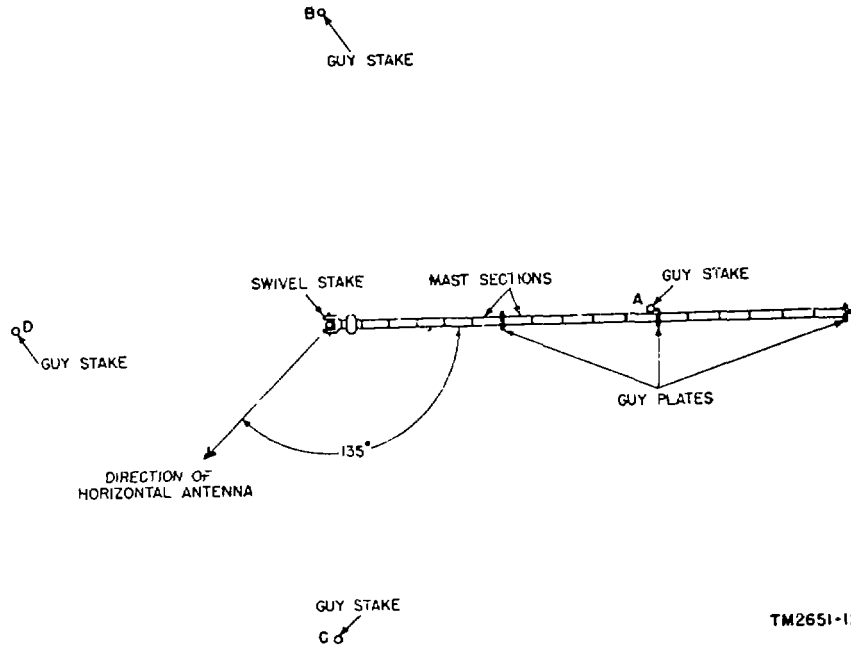

Figure 13. Assembling mast sections and positioning stakes.
- (1) Place the mast sections in a line on the ground (fig. 13) with the female end of each section pointing toward the swivel stake.
c. *Stakes.* The four stakes should be located 25 feet from the swivel stake and approximately 90' apart. Note that the letters assigned to the stakes in figures 13 and 14 and in the text below are inserted for purposes of illustration only and are not markings on the equipment.